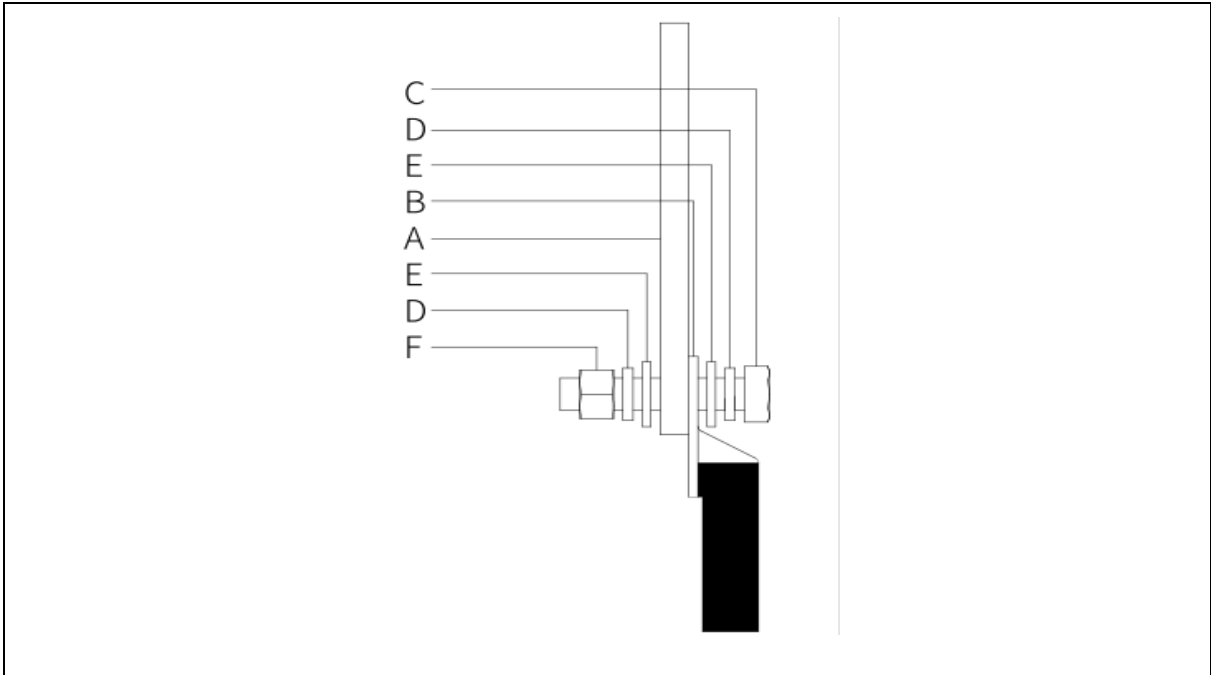

Figure 57: Connected Terminal
1. Open the front door as shown in Figure 57.